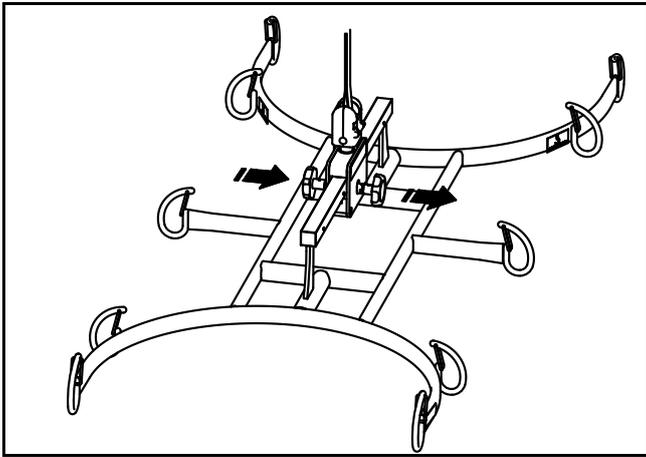
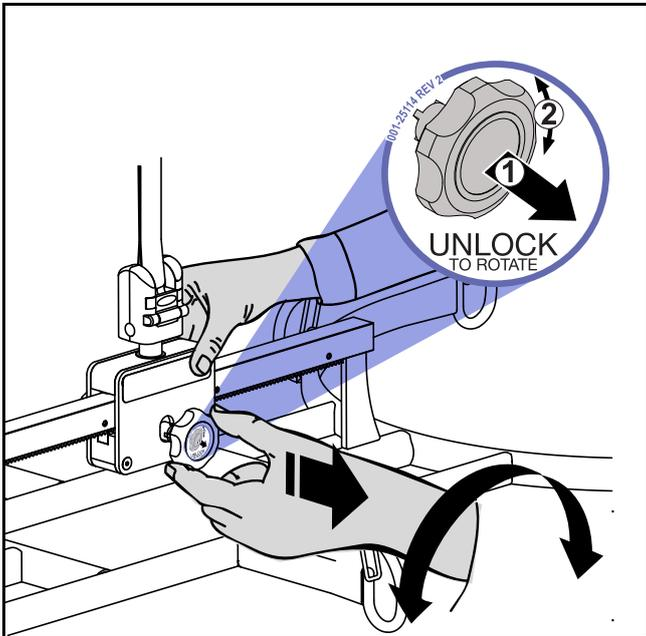

Fig. 8
Fig. 9
- 3) To adjust the stretcher frame, pull out or push in the knobs (depending which one is selected) against spring pressure for engagement (see Fig. 8) prior to rotation (see Fig. 9).